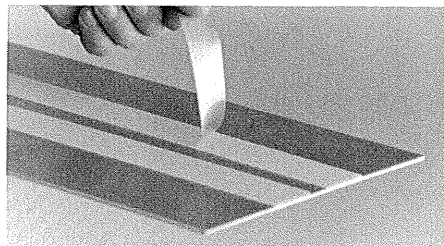

Fig. 3
6. On the first set of pads, remove the backing from the two pieces of tape (Fig. 3). Raise the stationary unit, position the pads using the reference lines, and lower onto the floor.